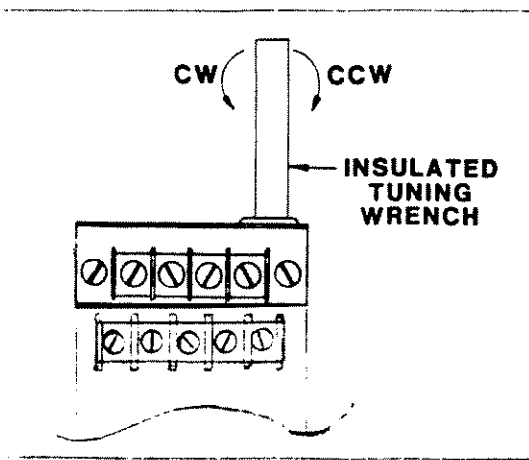

Fig. 7-2
B. Using the tuning wrench supplied, (red plastic tube with the nail sticking out for a pointer) back out the setpoint adjustment nut until it is fully counterclockwise (CCW). See Figure 7-2.